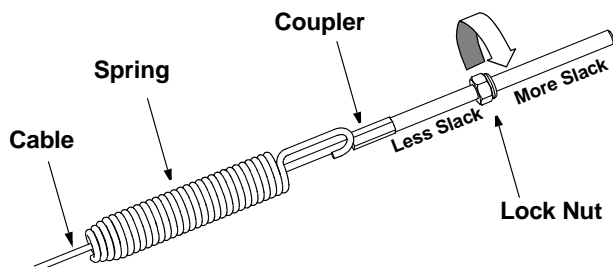

Figure 10
- Push the cable coupler through the end of the spring to expose the lock nut. See Figure 10.